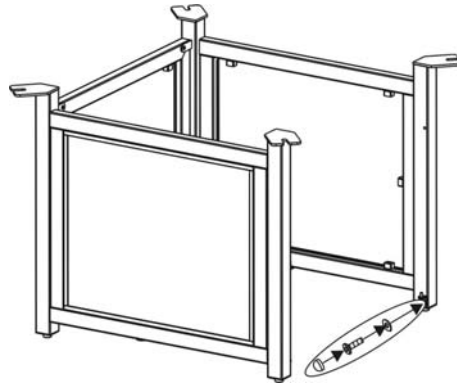

Figure 4
4. Attach a connector to the right side panel by using a 1/4"x15 mm bolt and washer as shown in Figure 4. Guide bolt through hole in connector, into pre-drilled hole in the right side panel. **Do not over tighten.**